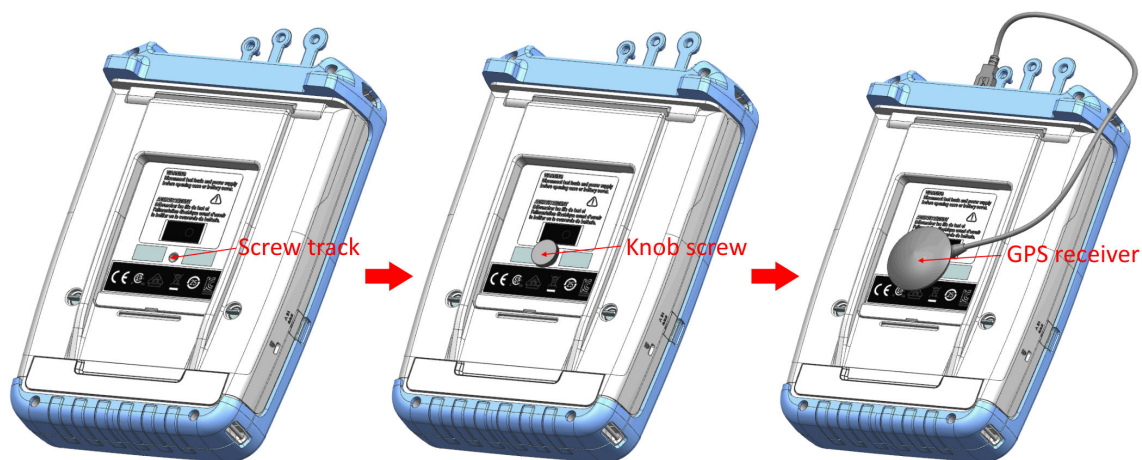

Figure 3-3: Location of GPS receiver
- The GPS receiver can be conveniently attached to the knob screw as shown in Figure 3-3.